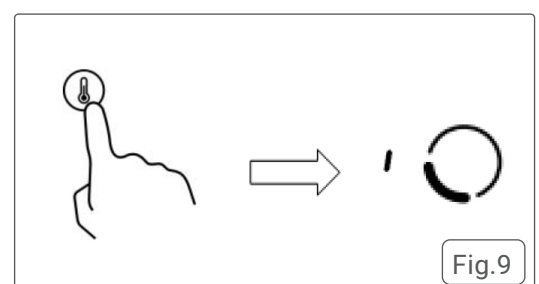

Fig.9
2. Touch the Keep Warm control. The zone indicator will display "I", confirming that the function is activated. Fig.9.